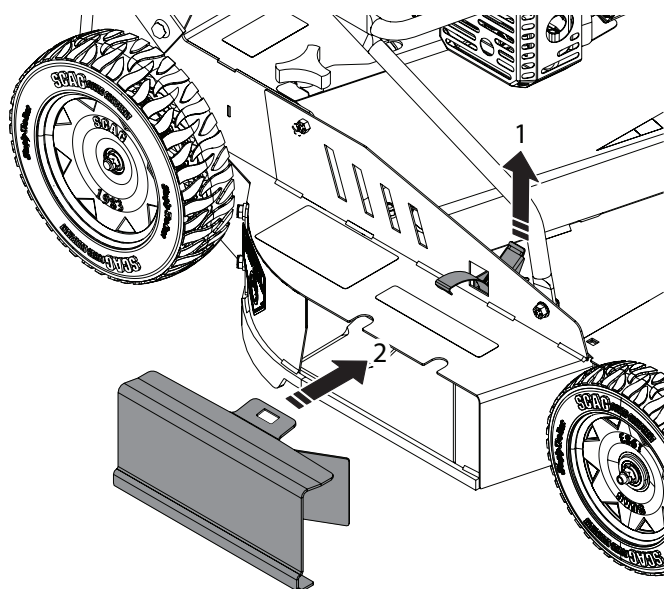

Figure 6-14. Discharge Block Off Plate
3. The discharge block off plate will need to be installed. See Figure 6-14.